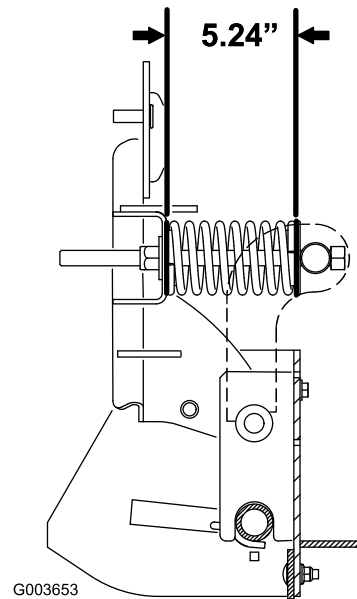

Figure 8
- The scarifier aggressiveness can be changed by adjusted the length of the springs (Figure 8). Lengthening the springs will make the scarifier less aggressive. Shortening the springs will make the scarifier more aggressive
The springs and actuating rods are adjusted at the factory. However, if new parts are installed or the springs are removed for any reason, the spring length should be adjusted to 5.24 inches (133 mm) as shown in Figure 8.